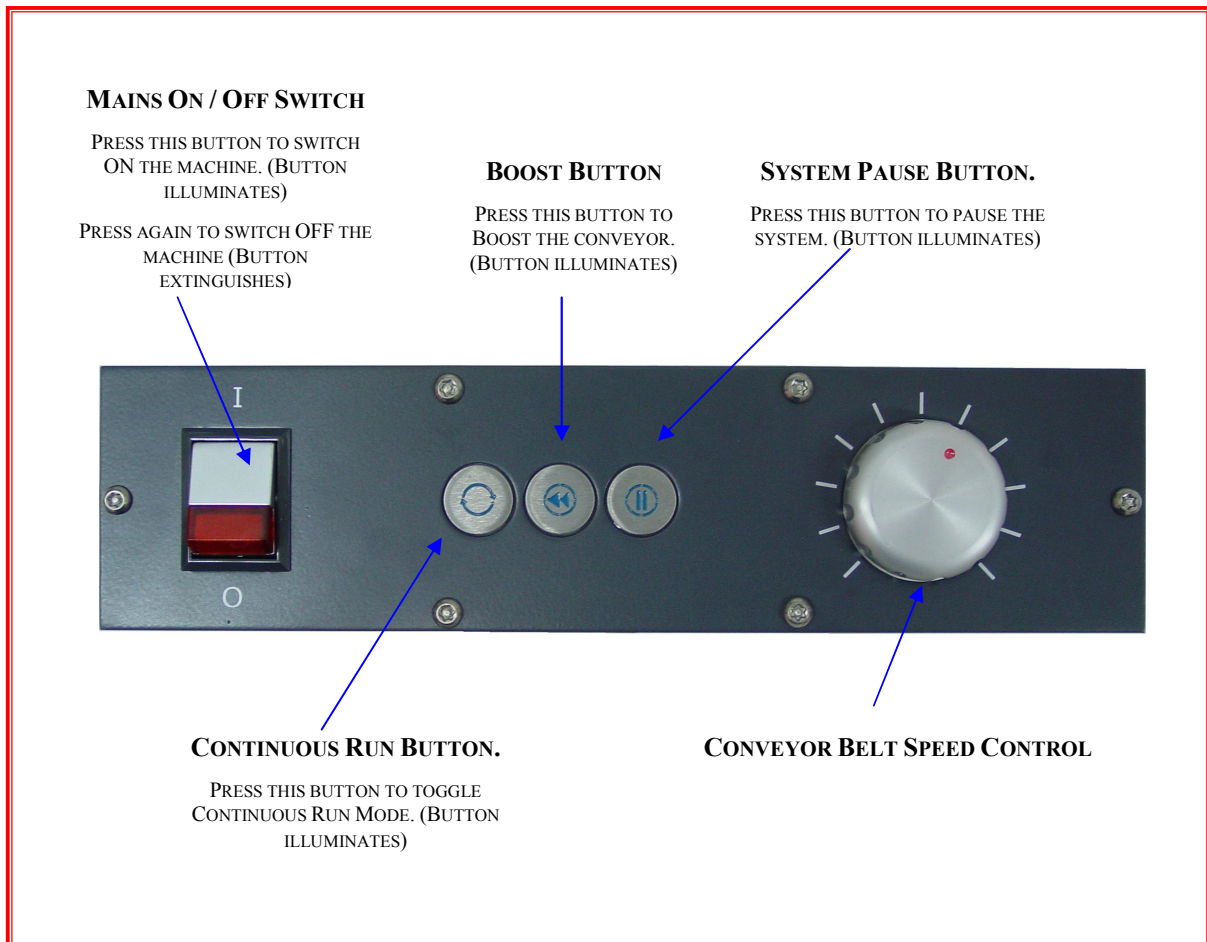

Fig 1.6 Identification of Controls
- Switch ON and check that the ON:OFF switch illuminates (Fig 1.6).